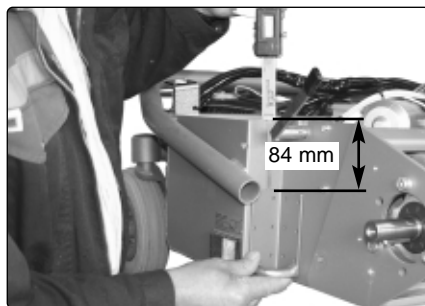

Fig. 6. Measure based on the mark and position the hook bracket at the right height
6. Measure based on the mark and position the hook bracket at the right height, see Fig. 6.